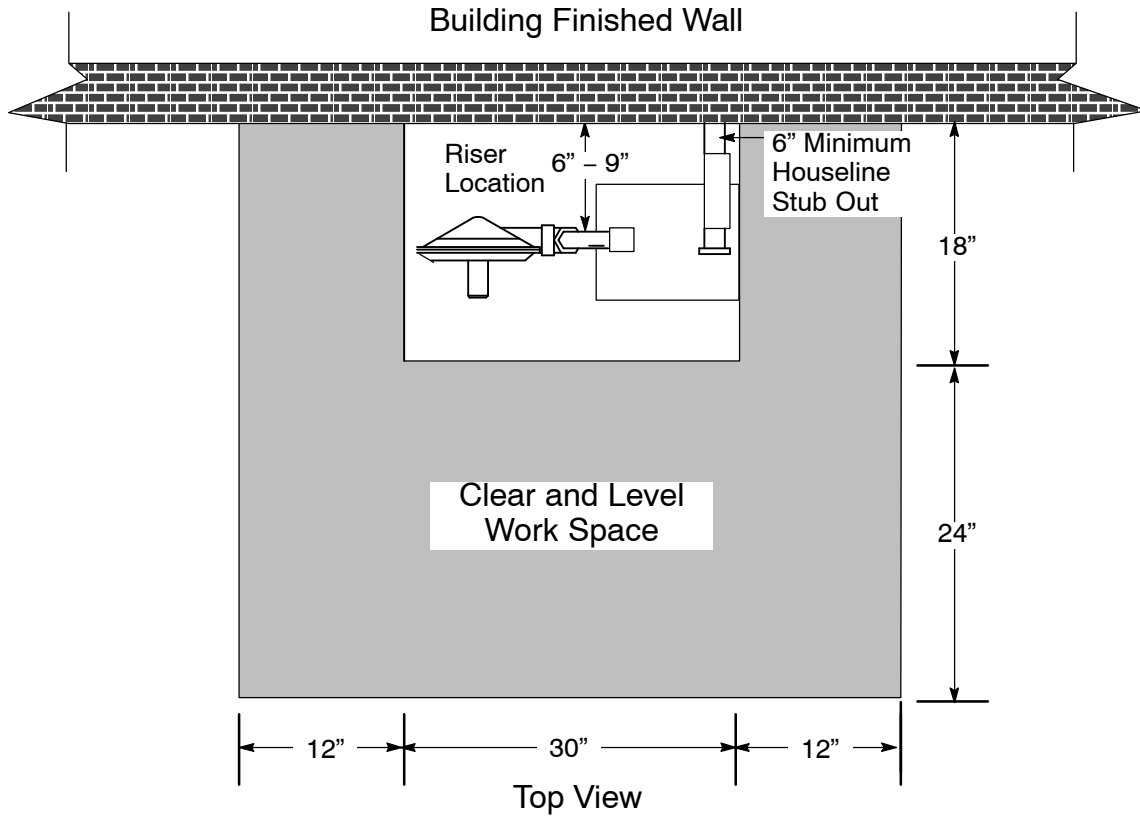

Figure 2-14
3. Figure 2-14 represents a typical gas meter kit with 701 through 1,120 scfh at 7 inches WC or 1,341 through 1,875 scfh at 2 psig.